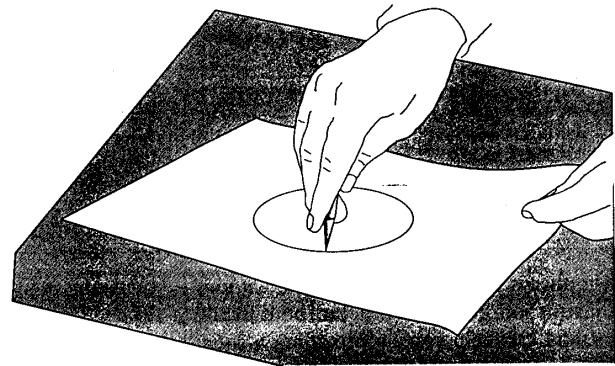

FIGURE 2.19 ■ Step 4, rotate the paper under your finger center point.
- Step 4. With the desired radius established, keep your hand and pencil point in one place while rotating the paper with your other hand. Try to keep the radius steady as you rotate the paper. (See Figure 2.19.)